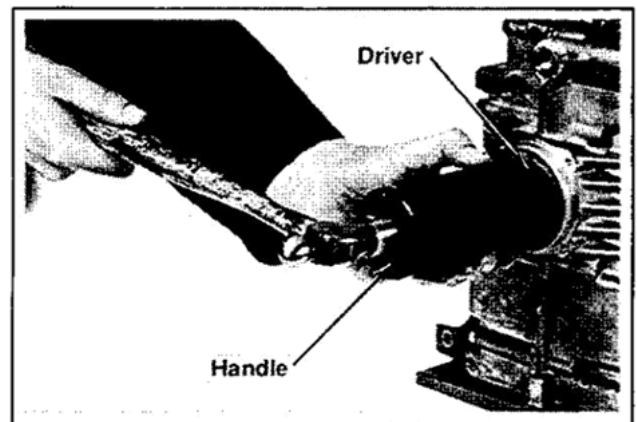

Figure 11-22. Installing Oil Seal Using Driver.
2. Using the handle (Tool No. NU-11795) and appropriate seal driver, install the oil seal. (depth: $1/32'' + 3/64''$; $-1/64''$). Refer to Figure 11-22.